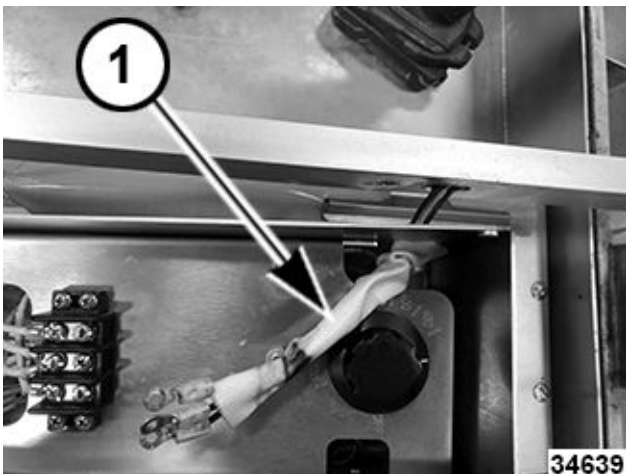

Fig. 26
11. Carefully remove wiring (1, Fig. 26) out of control box.